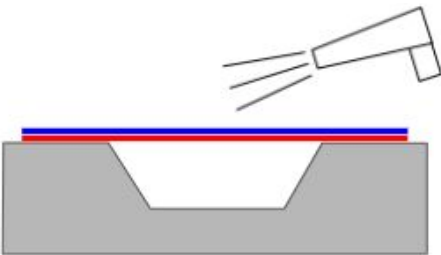

Fig.2
2) Heat the material between 35°C and 50°C to soften the film, thus making the inlay process easier. *Fig.2*